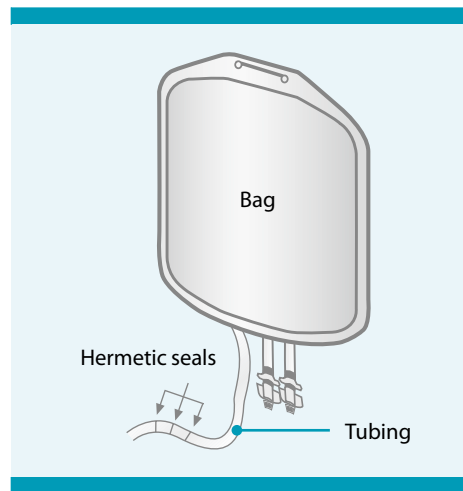

Figure 6.1: Sealing a bag
5. Using the heat sealer, seal off the tubing and separate, leaving at least 15 cm of tubing on the Cell Preparation for further connections (see Figure 6.1). Retain the original Bone Marrow Aspirate bag until cell separation and final cell analysis have been completed.